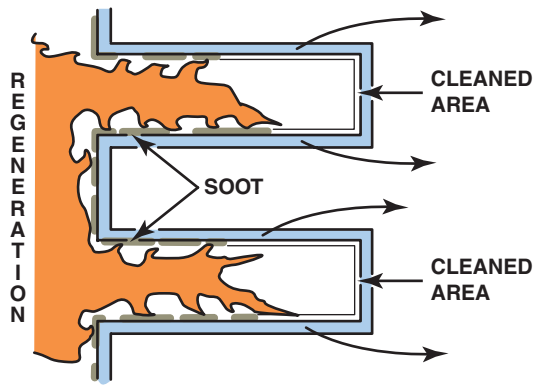

FIGURE 11-27 Regeneration burns the soot and renews the DPF.
2. Adding late post-injection pulses provides the engine with additional fuel to be oxidized in the DOC, which increases exhaust temperatures entering the DPF to 900°F (500°C) or higher. ● **SEE FIGURE 11-27.**